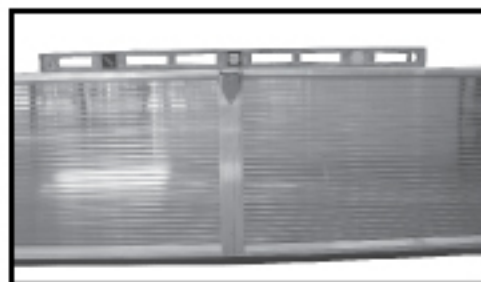

FIG. 8-A
Step 8-2: Position vertical track around the rollers of the bottom section. Vertically align the track so there is approximately 3/4" gap between the edge of the section and the edge of the track. (FIG. 8-B)